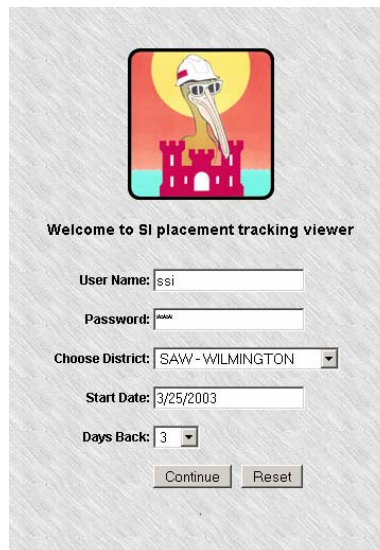

Figure 4.1 Placement Tracking Viewer Login Window
1. Open the URL, **http://www.satdata.us/coe/ssi_login.asp**, to bring up the Placement Tracking Viewer login window as follows in Figure 4.1.